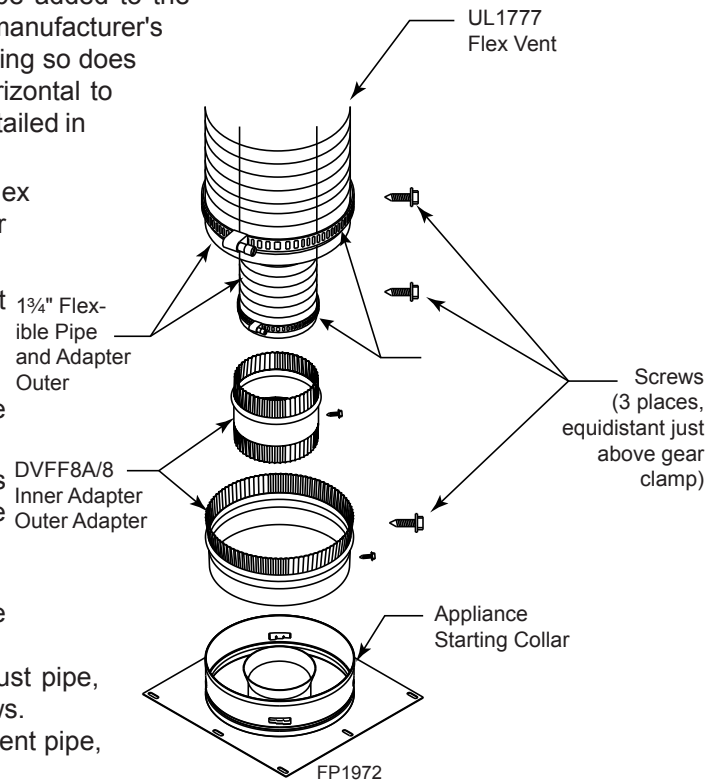

Figure 36 - Typical Appliance Connection
2. The flex adapter starter kit (DVFF8A/8) is used to attach flex venting to the appliance starting collar. It includes 5" inner and 8" outer adapter rings. *Figure 36*
B. Installing the outer flex pipe. *Figure 36*